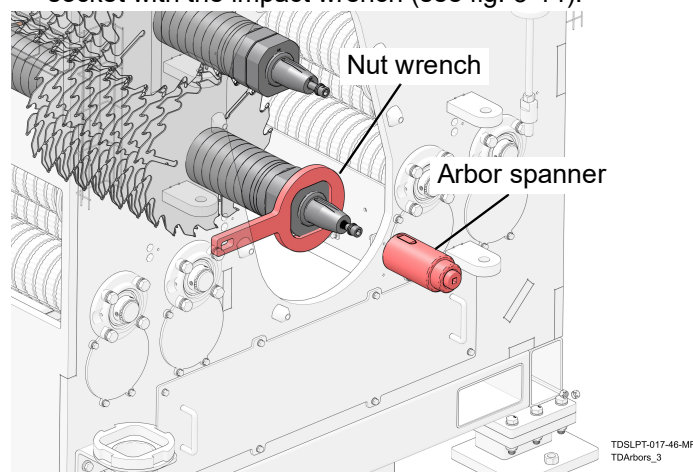

FIG. 3-13
5. Loosen the arbors with the nut wrench, arbor spanner and a 1/2in drive, (see fig. 3-13) or use the arbor nut socket with the impact wrench (see fig. 3-14).